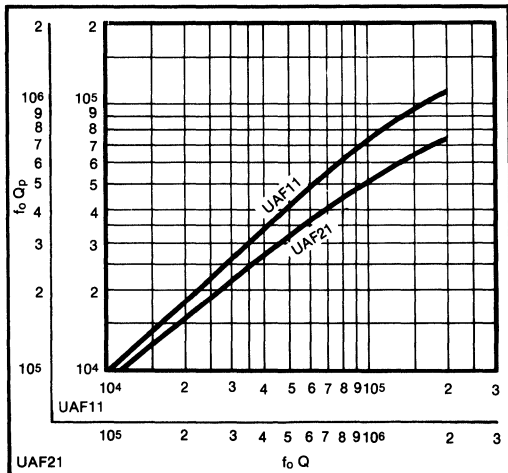

FIGURE 5. Q_p Determination.
2. Calculate the f_o Q product for the filter. If the product is above 10^3 Hz (or 10^3 for the UAF21), locate the corresponding $f_o Q_p$ product on the curve in Figure 5. Divide $f_o Q_p$ by f_o to obtain Q_p . Use Q_p as indicated in the design equations. For f_o Q products below 10^4 Hz (or 10^5 for the UAF21), $Q_p = Q$.